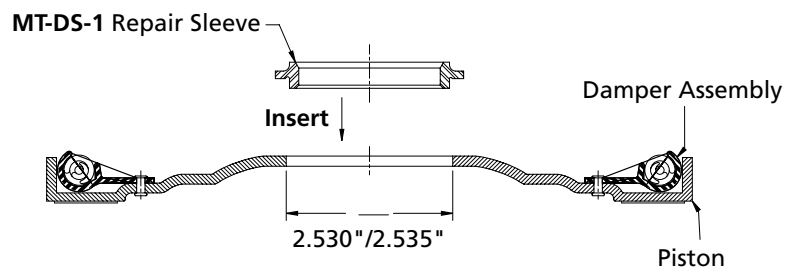

Figure 2
2. Bore the inside diameter to 2.530"/2.535" to accept repair sleeve as shown in *Figure 2*.
3. Machine surface directly adjacent to the I.D. bore, as shown in *Figure 2*, to ensure a flat mating surface for the new Sonnax repair sleeve MT-DS-1.